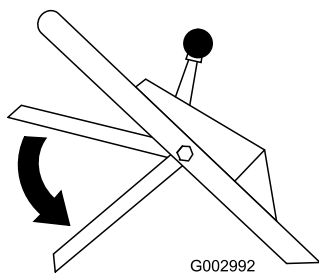

Figure 17
8. Ensure that the blade control bar down is in the lowest position (Figure 17).
2. Ensure that the blade control bar down is in the lowest position (Figure 17).
3. Move the blade control bar down to its lowest position (Figure 17).